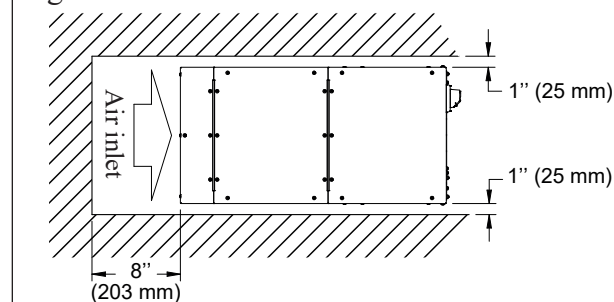

Figure 5
- 7- Unbend outlet or/and inlet flanges on the unit and adapt ductwork to the dimensions shown (Figure 5). Ductwork constructions must be done according to the NFPA 90B regulations.